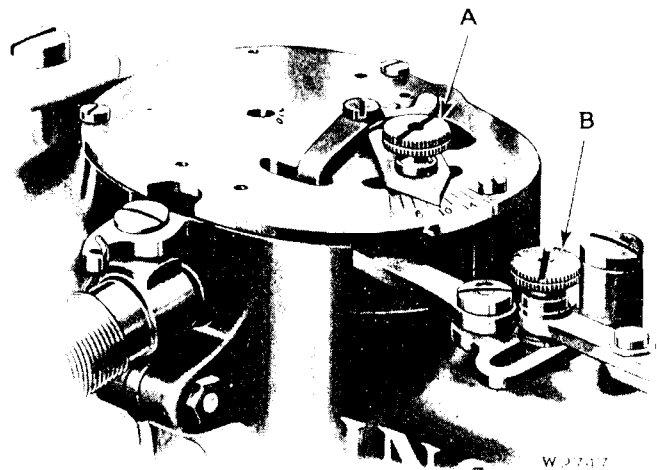

Fig. 15. Barring Stitch Regulator
The width of bight is regulated by the thumb screw (B, Fig. 15) which holds a movable stud in a slotted link at the top of the machine. To increase the width of bight, loosen the thumb screw (B) and move the stud to the left in the slot. To decrease the width of bight, move the stud to the right in the slot. When the desired width of bight is obtained, tighten the thumb screw.
that the machine will make. The pointer on this plate shows the number of barring stitches that the machine is ready to make. To change the number of barring stitches, loosen the thumb screw (A, Fig. 15) and move the pointer until it points to the number corresponding with the desired number of barring stitches, then tighten the thumb screw.